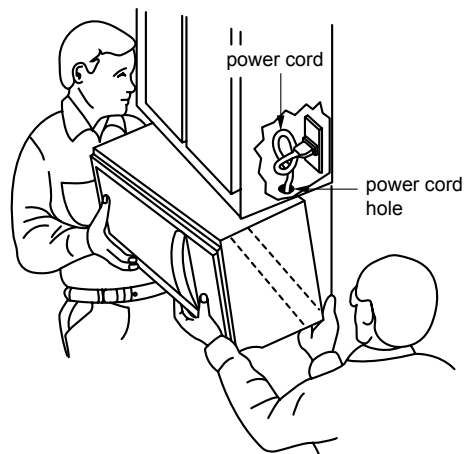

Figure 28
1. Carefully lift microwave oven and hang it on support tabs (See Figure 24) at the bottom of the mounting plate. Reaching through upper cabinet, thread power supply cord through the power supply cord hole in the bottom of the upper cabinet. See Figure 28.